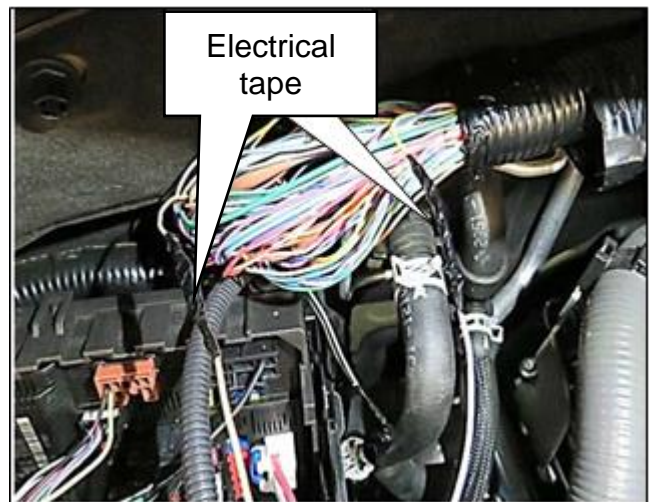

Figure 46
43. Wrap both solder sleeves connectors with electrical tape, as shown in Figure 46.